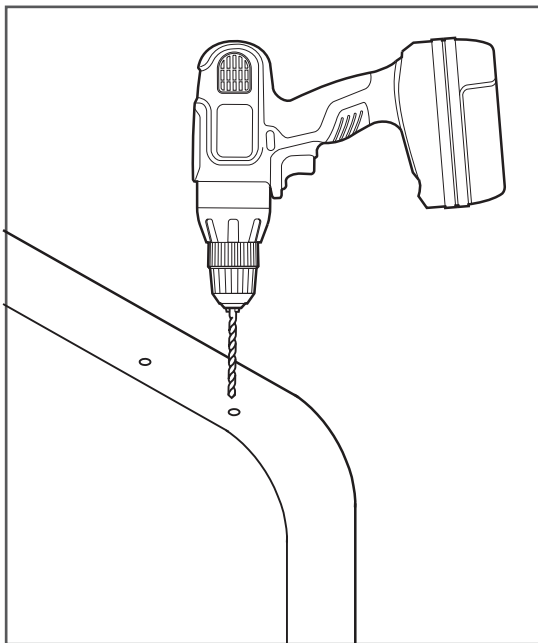

Figure 2
4. Drill two pilot holes for each hanger using a 1/8" bit (Figure 2).